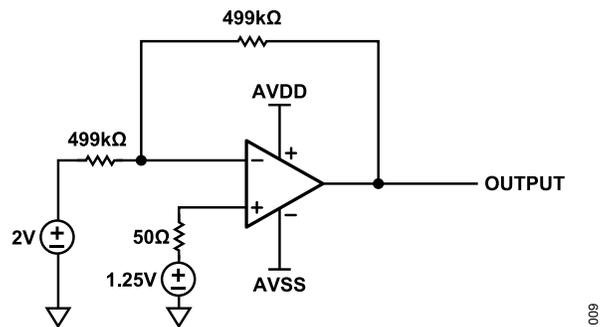

Figure 7. DC Voltage Source Input Test Circuit, Shunt installed at P4 and P4
9. Install a shunt on P5 or P4 to set the gain to -1. The equivalent test circuit is shown in Figure 7.